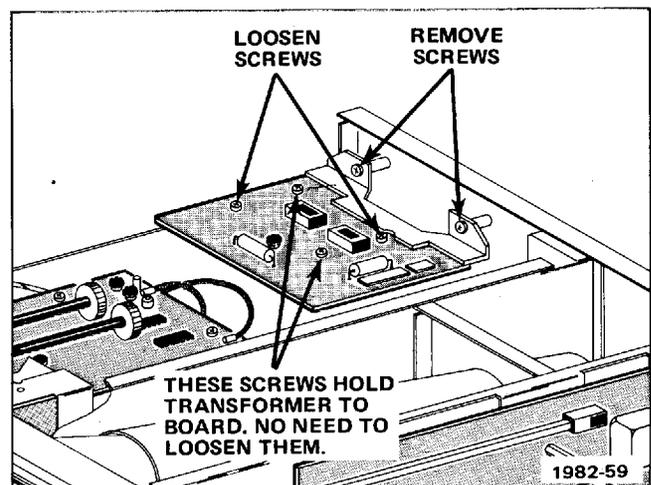

Fig. 5-13. T922R power module replacement.
3. Remove two screws and two bolts from the power module (see Fig. 5-13).